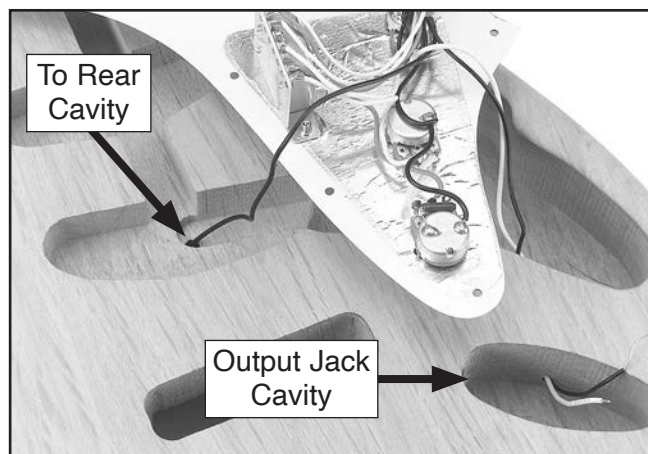

Figure 4. Wires correctly routed.
2. Push (1) black ground wire through hole that leads to rear cavity in back of guitar, as shown in **Figure 4**. This wire will be soldered to spring hanger in later step.
3. Push (1) black wire and (1) yellow wire through hole leading to output jack cavity shown in **Figure 4**. These will be soldered to output jack in later step.